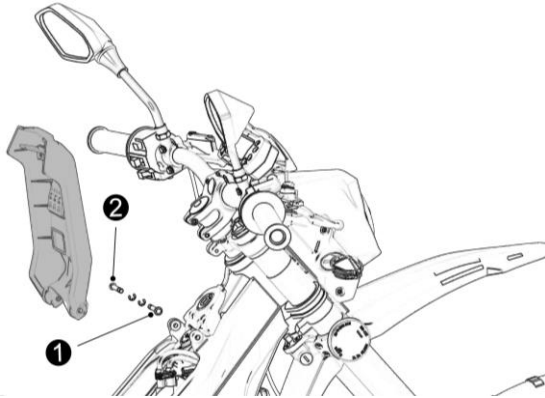

Fig 56
11.27 Disassemble and assemble cover of battery compartment (see Fig 56)
- Use keys to open cover of battery compartment. And use long flat nose pliers to take spring clip down from shaft of flat head pin①② and draw shaft of pin out①②